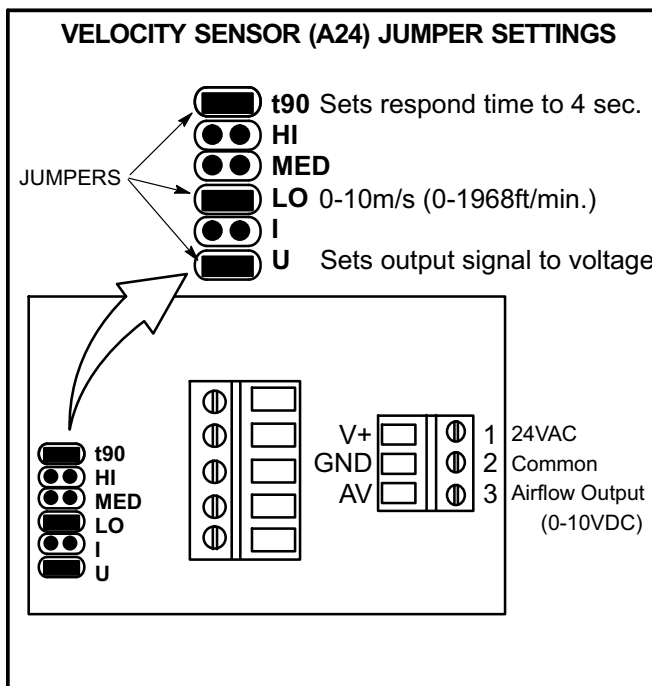

FIGURE 32
Note - The configuration ID setting (H) must be paired with the "low" jumper position on the A24 control (see figure 32). The jumper is factory-set at low range (0-1968ft/min).